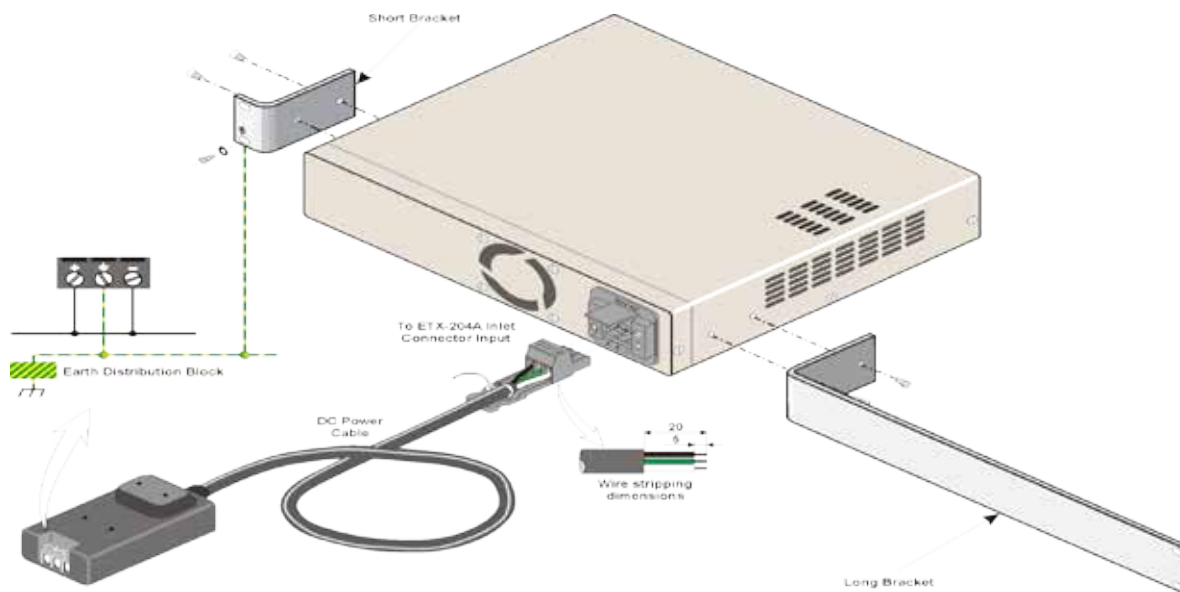

Figure 2. Installing a Single Unit
1. Fasten the short bracket to the left or right side of the unit using two 6-32 UNC screws (see *Figure 2*).
The DC surge protector is installed between the DC power source and protected unit (see *Figure 2*). The installation does not require any additional tools.
Figure 2 illustrates how to connect the surge protectors to the units that are fed from the same DC source and explains the connection of the terminal block of the DC Surge Protection Unit to the circuit breaker.